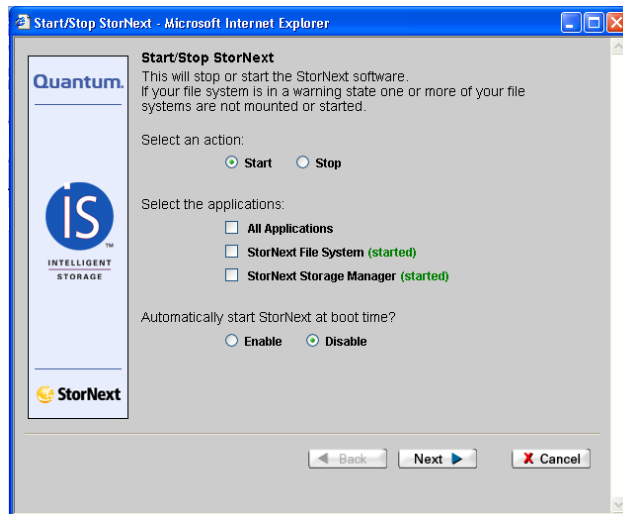

Figure 14.4-3. Start/Stop StorNext Page
- The Start/Stop StorNext page will be displayed (Figure 14.4-3).